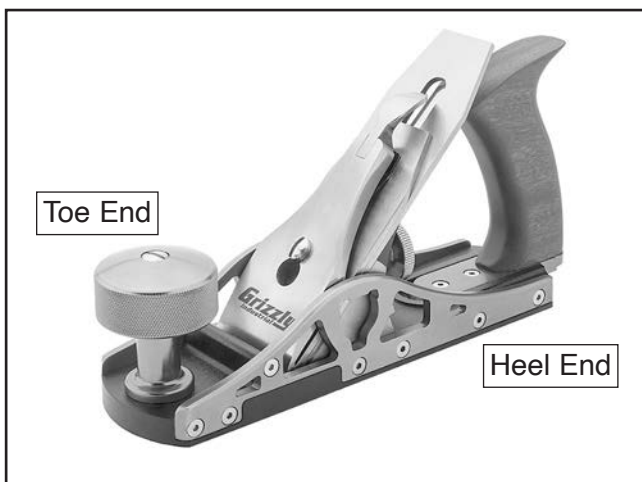

Figure 12. Toe and heel ends of smoothing plane.
4. Begin stroke with majority of hand pressure on toe end of smoothing plane, as shown in **Figure 12**.
5. When entire sole rests on workpiece, balance hand pressure on both toe end and heel end of plane, then increase pressure on heel end during end of stroke (see **Figure 12**).